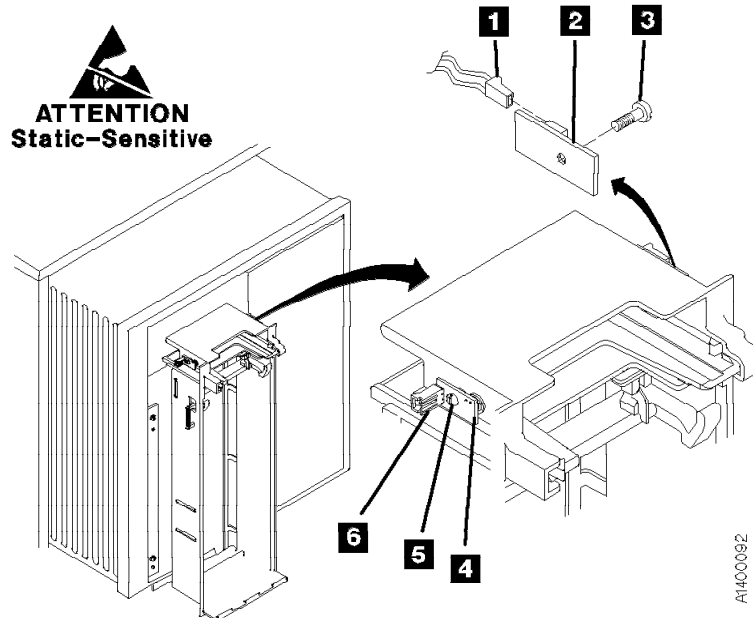

Figure 305. Priority Slot Sensor
4. See Figure 305. Remove the mounting screw **3** from the emitter card **2**.